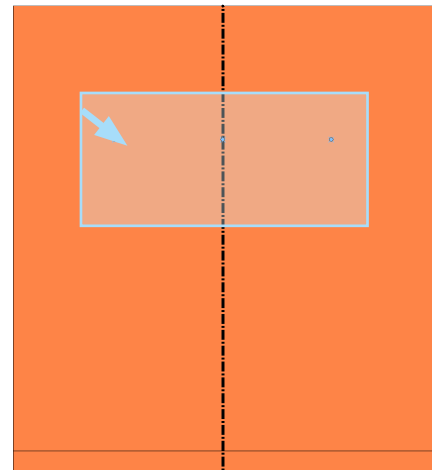

Fig. 26
Step 11. **Drag a selection to right** select all points, Fig. 26.